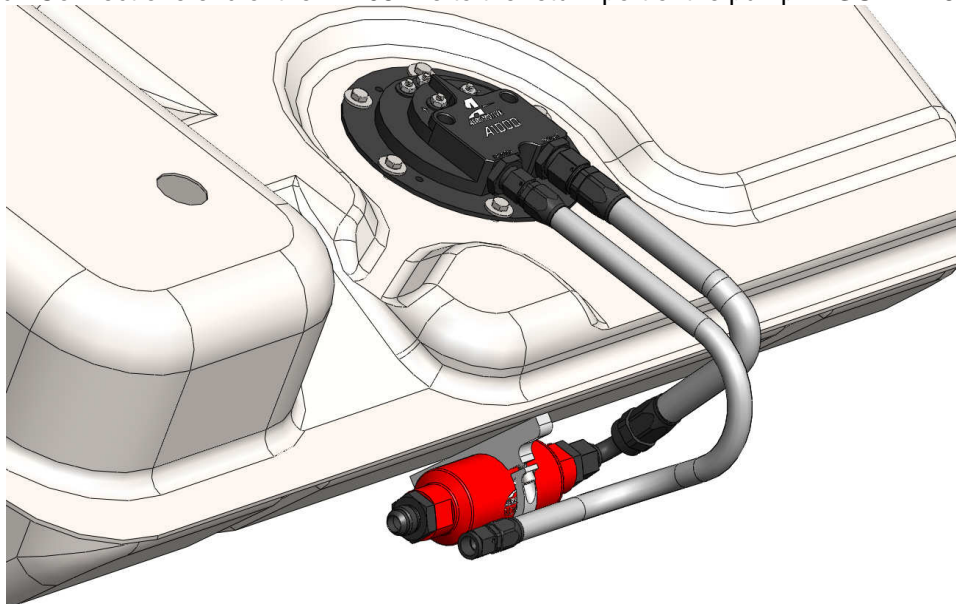

FIGURE 1-5
- 1-10. Place the fuel pump sealing gasket on top of the tank mounting ring and position the fuel pump in the tank with the outlet/return ports facing forward (toward the front of the car). Use the 6 supplied bolts and washers to secure the pump assembly to the tank. Place the lower tank shield onto the bottom of the new Aeromotive tank at this time. Assemble a small section of AN-08 hose with straight hose-end on one side and 90-degree hose-end on the other. Route from the pump outlet to the fuel filter inlet. Next, assemble a 1-2 foot section of AN-08 line with straight hose-ends at each end. Connect one end of the AN-08 line to the return port of the pump. **FIGURE 1-5**